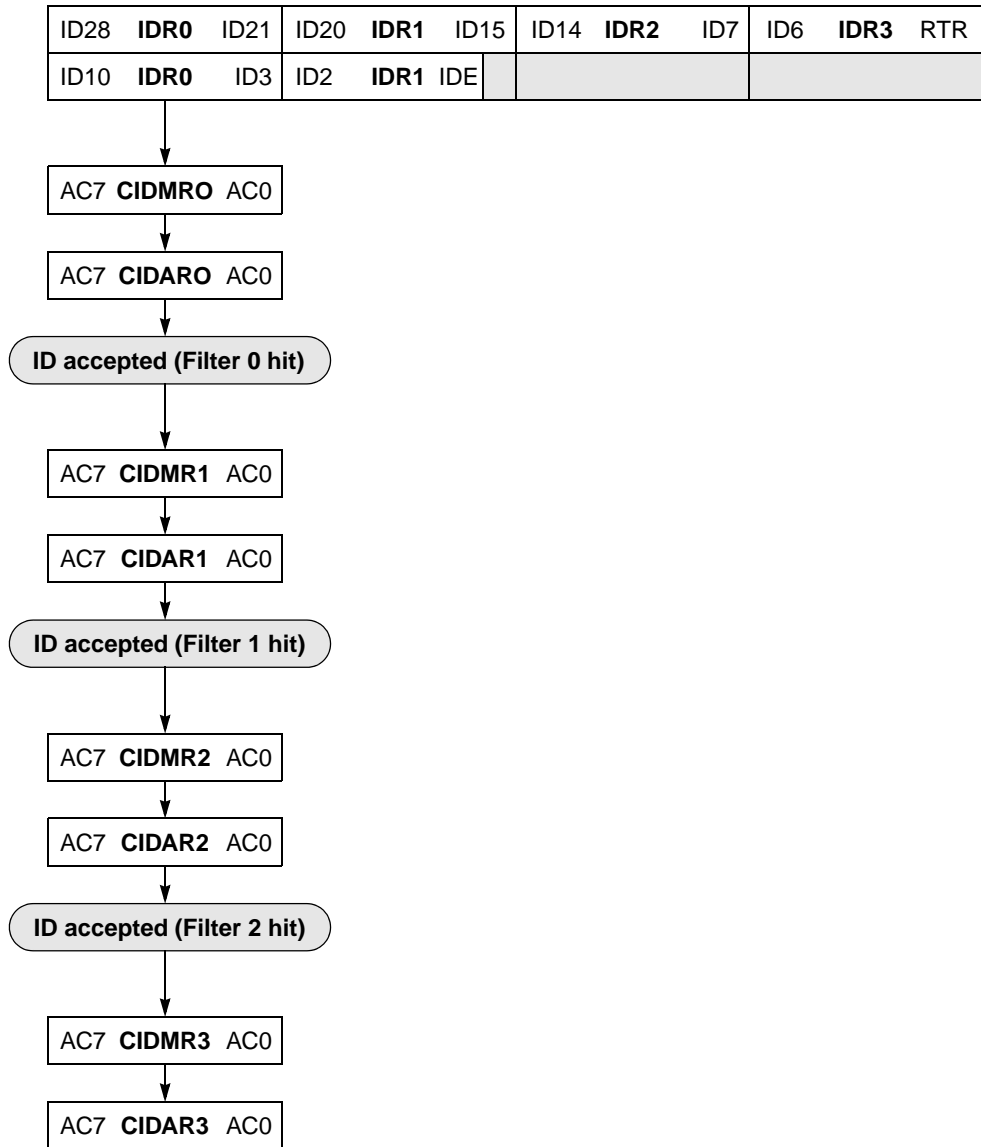

Figure 16-5. 8-Bit Maskable Acceptance Filters
3. Eight identifier acceptance filters, each to be applied to the first eight bits of the identifier. This mode implements eight independent filters for the first eight bits of a CAN 2.0A compliant standard identifier or of a CAN 2.0B compliant extended identifier. Figure 16-5 shows how the first 32-bit filter bank (CIDAR0–CIDAR3, CIDMR0–CIDMR3) produces filter 0 to three hits. Similarly, the second filter bank (CIDAR4–CIDAR7, CIDMR4–CIDMR7) produces filter 4 to seven hits.